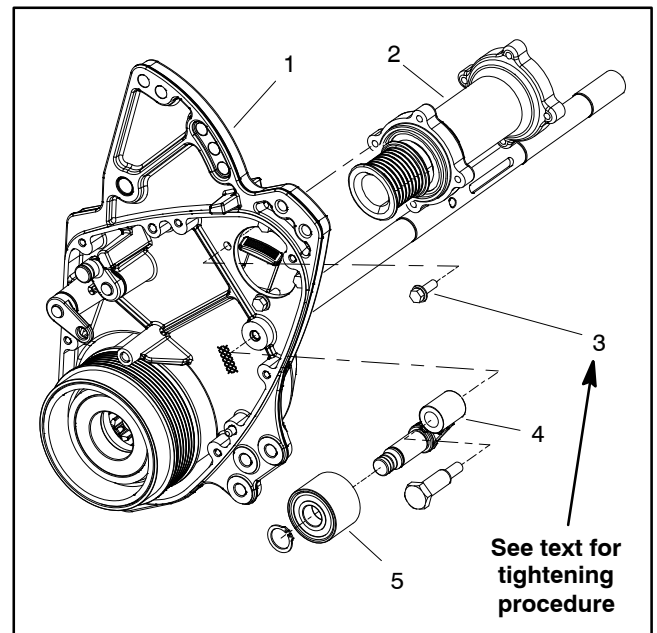

Figure 56
3. Remove flange head screw (item 12) and hardened washer (item 5) that secure driven pulley (item 6) to shaft. Slide pulley from shaft. Locate and retrieve woodruff key (item 9).
5. Slide traction drum drive driven pulley (item 4) from extension housing.
6. If necessary, remove ball bearings (item 3), spacer (item 7) and wave washer (item 8) from extension housing.
7. If it is necessary to remove extension housing (item 2):
A. Loosen fasteners (items 12, 11 and 13) that secure transmission housing to machine frame.
B. Remove four (4) washer head screws that secure extension housing to transmission housing and RH drum drive housing.
C. Remove four (4) washer head screws that secure extension housing to RH drum drive housing (Fig. 56).